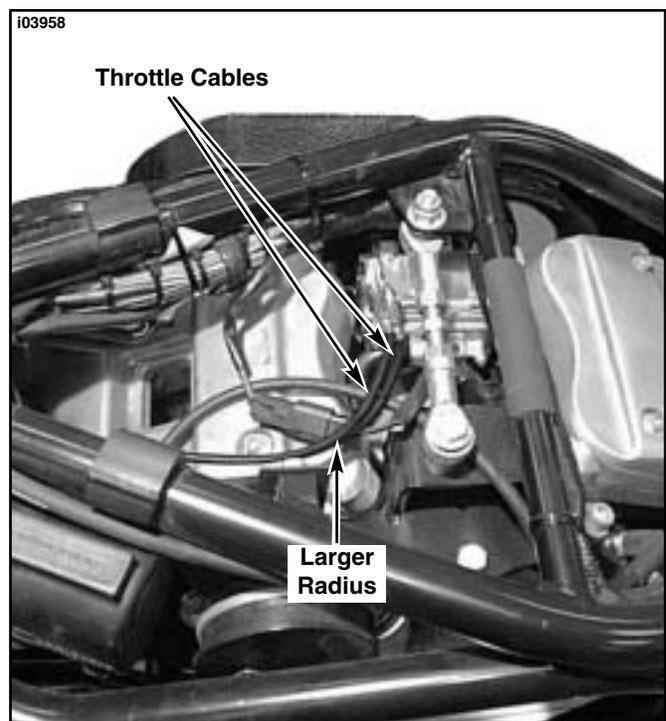

Figure 9. Throttle Cable Routing (Buell Models)
1. See Figure 9. Route the throttle cables with large radius curves so that they do not interfere with other components.